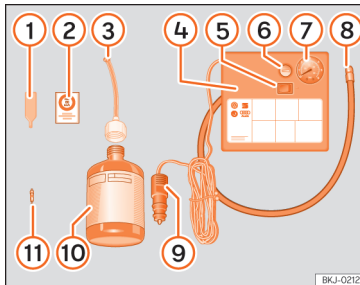

Fig. 97 Standard display: contents of the anti-puncture kit.
» **Fig. 97:**
Screw the inflator tube **»» Fig. 97 ⑤** again and check the pressure on the gauge **⑥**.